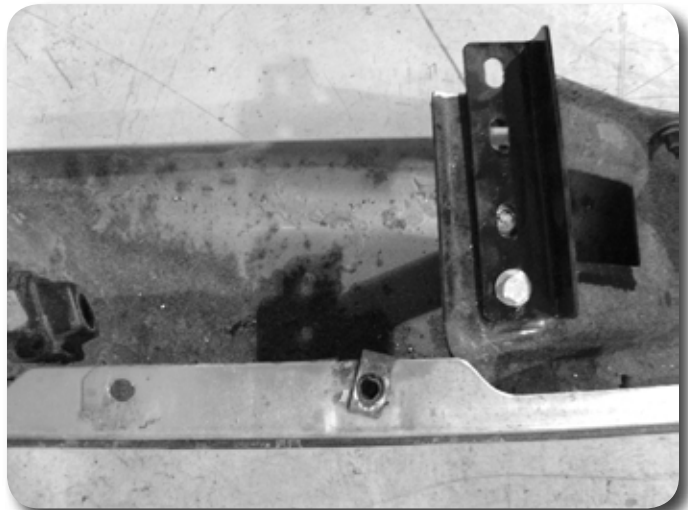

Figure 22
51. Install the outside brackets to the bumper with the top bolts only. The rest of the bolts will have to be installed with the bumper on the vehicle as the bracket is sandwiched between the factory bumper brackets. **Figure 22**